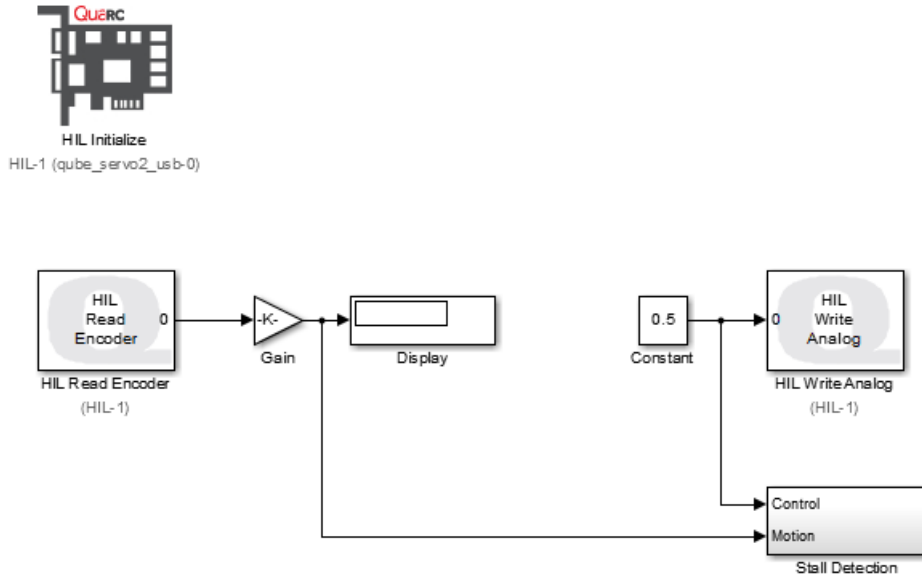

Figure 1.4: Simulink model used with QUARC to drive the DC motor and read angle on QUBE-Servo 2
The objective here is to build a Simulink model using QUARC blocks to drive the DC motor and then measure its corresponding angle, as shown in Figure 1.4.
2. Connect the **HIL Read Encoder** to a **Gain and Display** block similar to Figure 1.4 (without the **HIL Write Analog** block. It will added later). Double click in the Simulink model and search for the **Gain and Display** blocks. In the Library Browser, you can find the **Display** block from the **Simulink | Sinks** and the **Gain** block from **Simulink | Math Operations**.
2. Add a **Constant** block. Connect the **Constant** and **HIL Write Analog** blocks together, as shown in Figure 1.4.